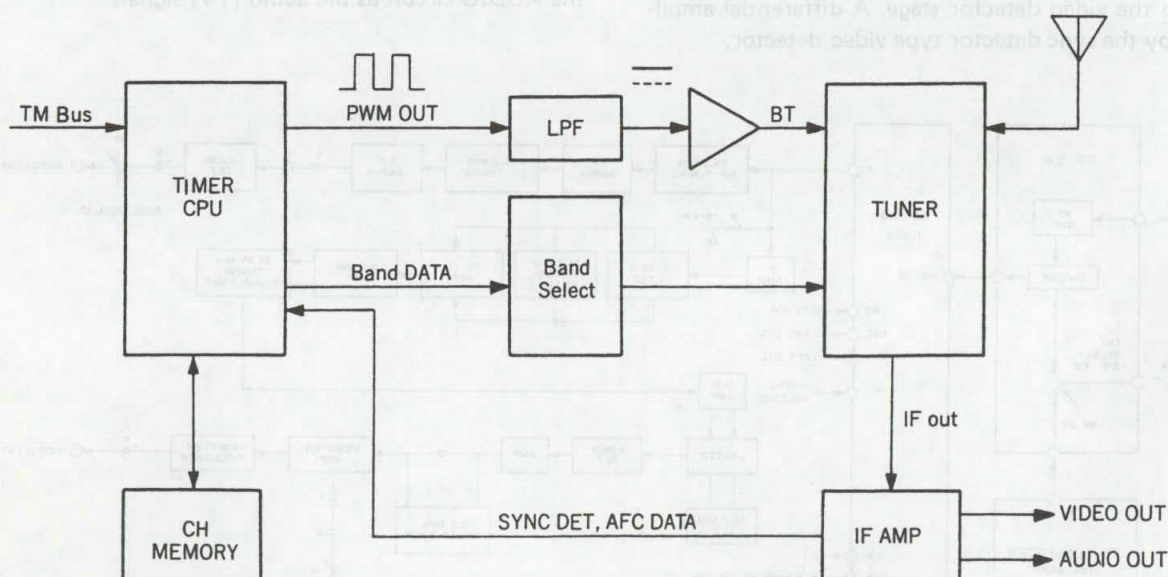

Fig. 6-2-1 VST (Voltage Synthesizer Tuner) principle
The voltage synthesizer tuner (VST) principle is indicated in Fig. 6-2-1. Tuning voltage (BT) and PWM data from the timer CPU are smoothed by a lowpass filter. The PWM counter is contained in the CPU and the counter value with respect to each channel voltage is sent as PWM data from the timer CPU.
Refer to Fig. 6-2-1. The tuning operation begins with the band data output from the timer CPU. The tuning PWM counter then increments and the smoothed PC voltage rises. This is converted to the tuning voltage BT of between 0 and 40 V.